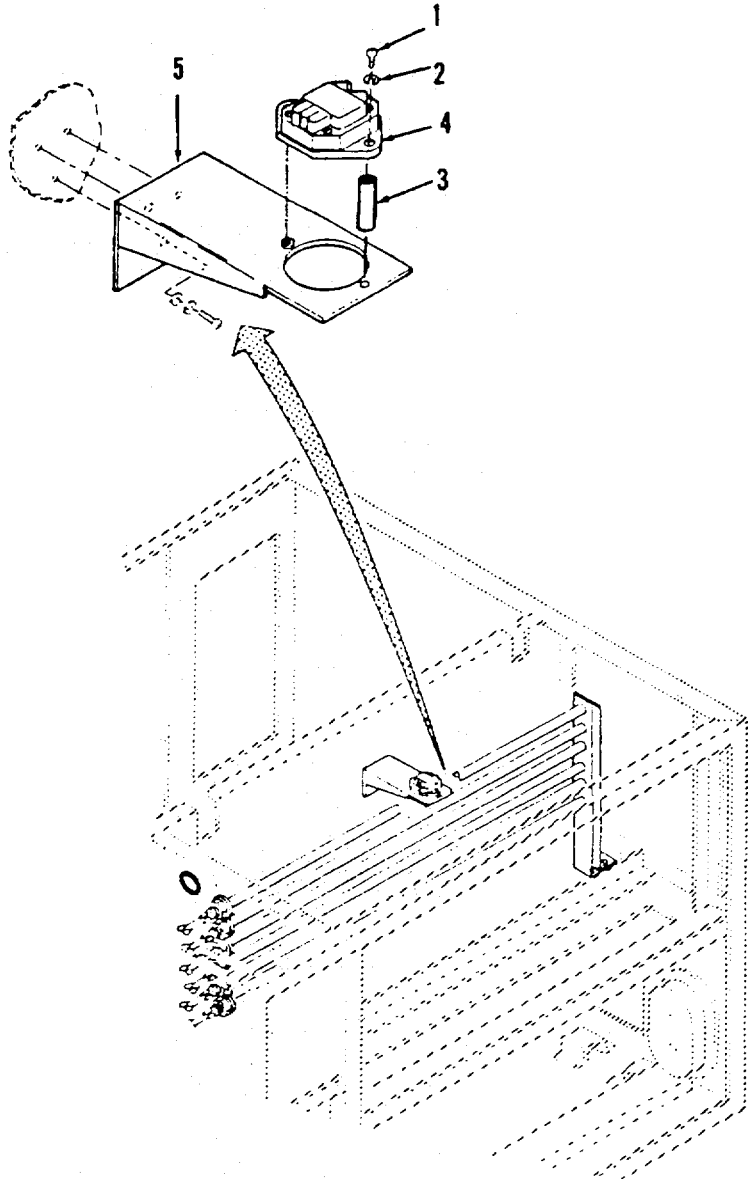

Figure 3-19. Heater Cutout Switch.
- a. **Removal.** (Refer to Figure 3-19).
- (1) Tag and disconnect heater cutout switch wires from terminals.
- (2) Remove two screws (1), two lock washers (2), and two spacers (3).